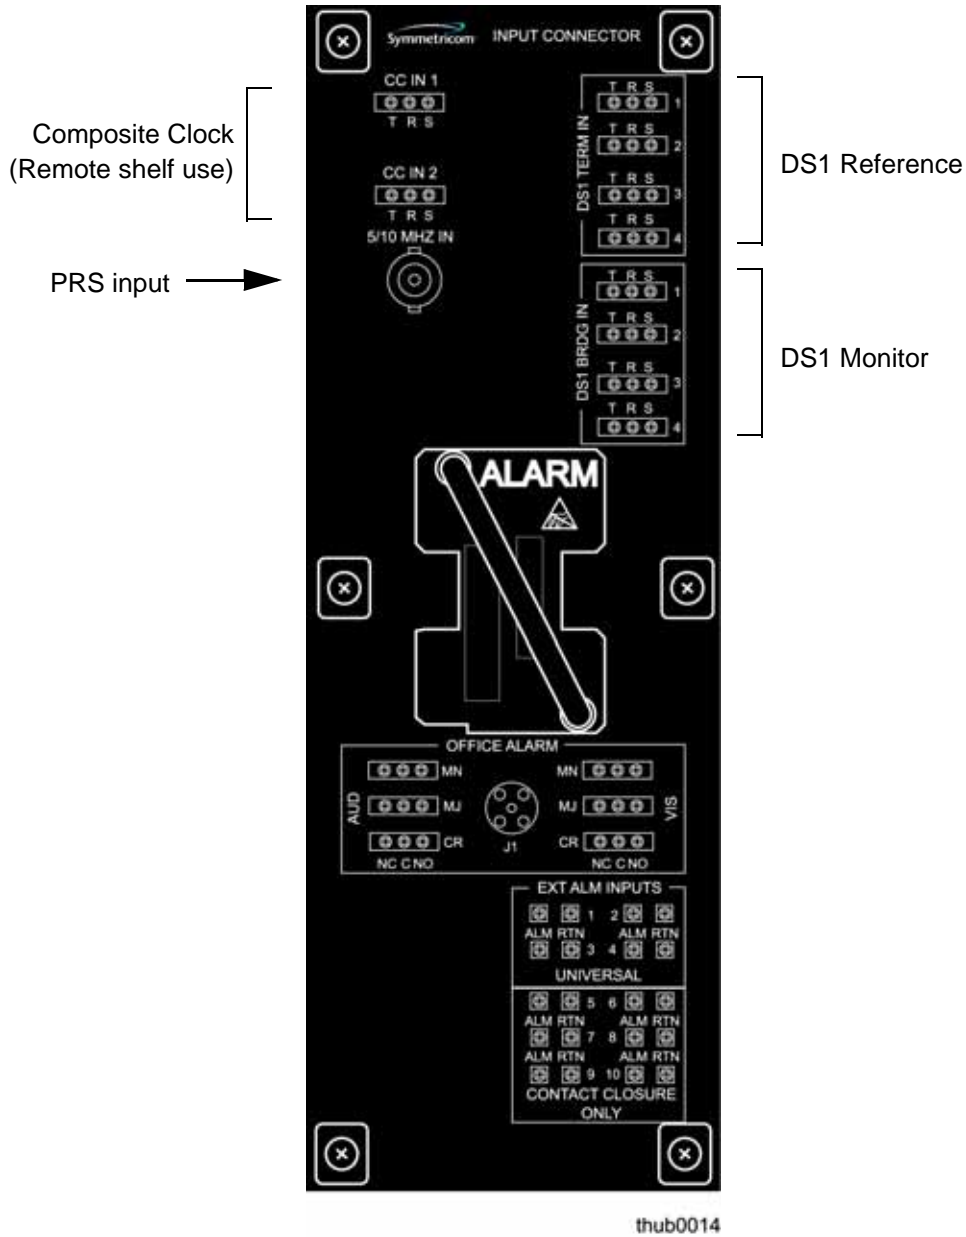

Figure 3-18. Input/Alarm Connector Module Connections
You make all timing input connections on the Input/Alarm Connector module (Figure 3-18). Install the module as described in Installing the Input/Alarm Connector Module, on page 110.
The Office alarms provide normally-open, center, and normally-closed contact pins. You connect the office alarms to the OFFICE ALARM critical (CR), major (MJ), and minor (MN) wire-wrap pins on the Input/Alarm Connector module. See Figure 3-18 for the location of the pins.
Connect the external alarm inputs (customer-configured alarm inputs) to RACK ALM INPUTS wire-wrap pins 1 through 10 on the Input/Alarm Connector module. See Figure 3-18 for the location of the pins.